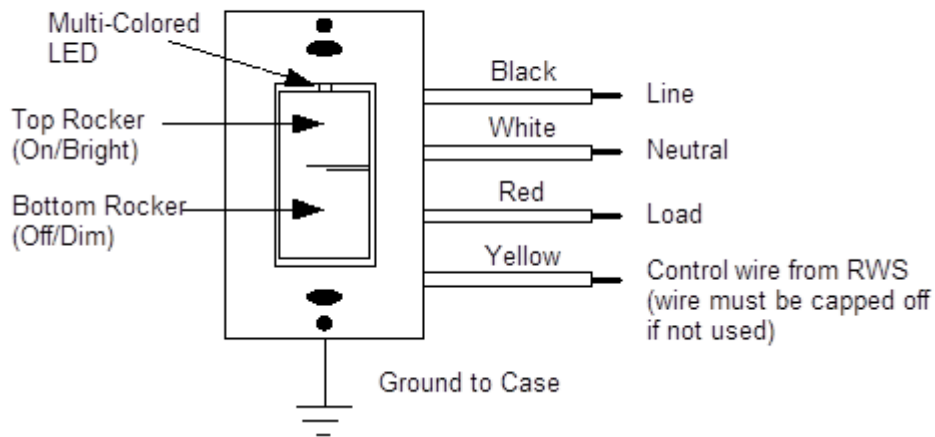

Figure 1: WS1C Wall Switch
The WS1C Wall Switch (Figure 1) is a high quality light-switch that not only allows for local rocker switch control of a lighting load but also incorporates PCS's innovative UPB™ two-way powerline communication technology that gives it the ability to be remotely controlled by other UPB™ compatible controllers. The WS1C is highly configurable to allow for behaviors customized to each individual's desires. The WS1C is capable of storing up to 16 preset light levels to create powerful lighting scenes. The WS1C is also capable of transmitting UPB™ messages (including a current light level report) when rocker switch events occur.
1. Refer to Figures 1 and 2 to determine the wire colors of the hook-up.